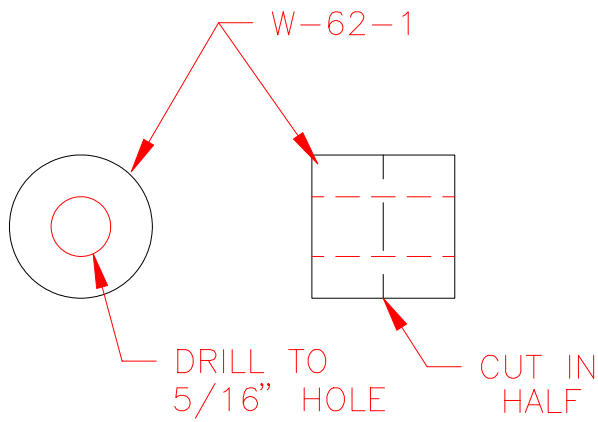

Figure 15.6.5
- 7) Drill out the hole in W-62-1 to a 5/16" drill size. Cut W-62-1 in half so that you have two equal parts of approximately 3/8" long. Figure 15.6.5.